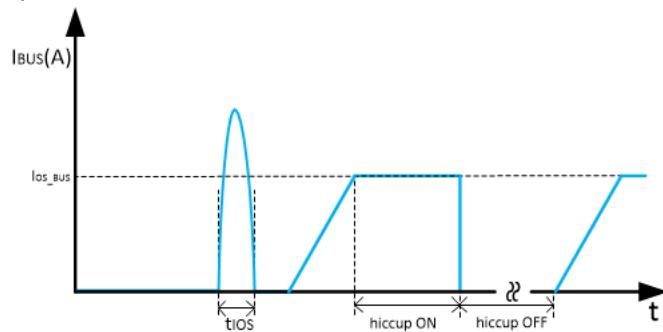

图 10-11. Response Time to BUS Short-Circuit
- The first condition is when a short circuit or overload is applied to the USB output when the device is powered up or enabled. There can be inrush current and once it triggers the approximate 8-A threshold, a fast turnoff circuit is activated to turn off the USB power switch within t_{IOS_USB} before the current limit control loop is able to respond (shown in 图 10-11). After the fast turnoff is triggered, the USB power switch turns off for approximately 200 μ s, and restarts with a soft start. If the USB port is still in overcurrent condition, the short circuit and overload hold the output near zero potential with respect to ground and the power switch ramps the output current to I_{OS_BUS} . If the overcurrent limit condition lasts longer than 4.1 ms, the corresponding USB channel enters hiccup mode with 524 ms of off-time and 4.1 ms of on-time.